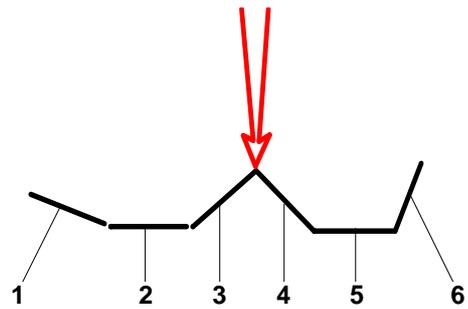

fig 3
1. To facilitate the fitting of the first stringer (7), slide the second stringer under the bottom of the boat at about 20 cm from the side [fig. 3-a].
2. **Position** the stringers on the edge of the floorboard. The reference mark on the stringer (8) must remain on top [fig. 3].
4. **Rotate** the stringers so that they press against the floorboard and fit correctly in the angle [fig. 3 and 4].